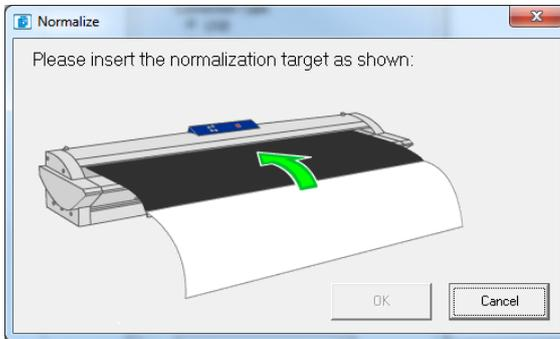

Fig 1-13
3. Follow the onscreen instructions for Normalise (Fig 1-13) and close the window when complete.